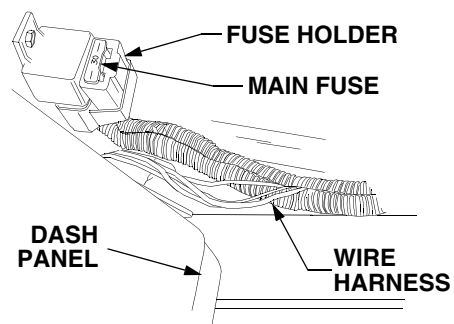

Figure 39
- Locate the main fuse on the lower/right pedestal beneath the dash panel. Refer to Figure 39.